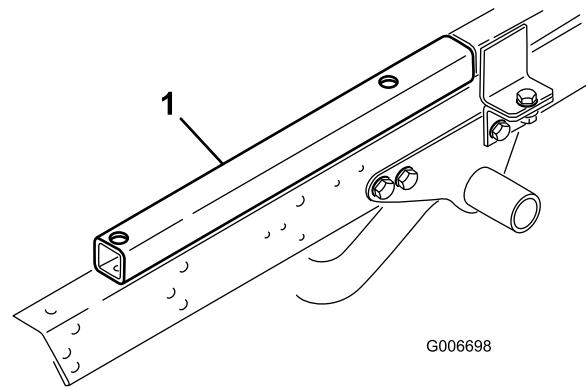

Figure 10
24. Remove any accessories mounted to top of frame in forward position such as a 1/3 bed, power platform, H.D. Hitch Frame extension tubes (Figure 10), etc.